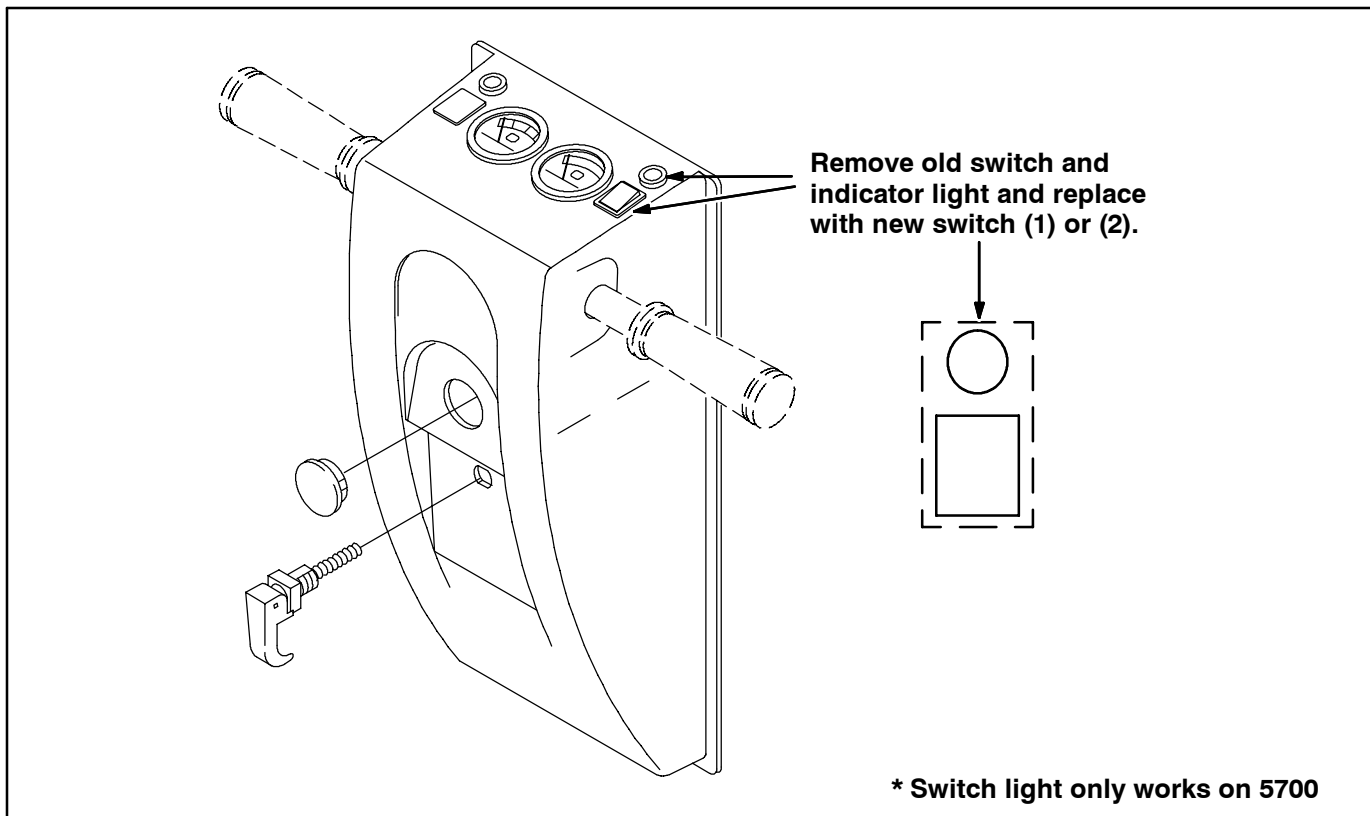

FIG. 5 - 5700 switch location
1. Remove the hardware holding the control panel to the machine from the control panel. Refer to Fig. 5 through Fig. 10.
6. Cut the shrink tube (3) to length and shrink the shrink tube over the bare terminals. If terminals are damaged, use the provided terminals (4) to replace those that are damaged.
9. Install switch (1) or (2) where the removed switch was previously located. Refer to Fig. 5 through Fig. 10 for switch locations.